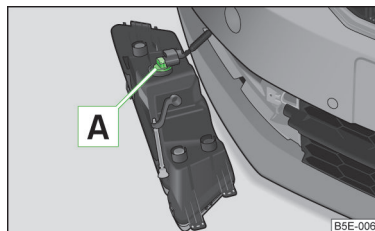

Fig. 217
- Turn the bulb holder **[A]** » Fig. 217 in an **anti-clockwise** direction up to the stop and remove.